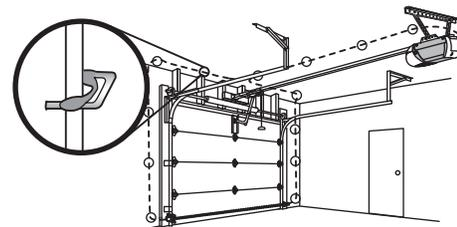

Figure 7
1. Cut the end of the safety sensor wire, making sure there is enough wire to reach the pre-installed wires from the wall (Figure 7).